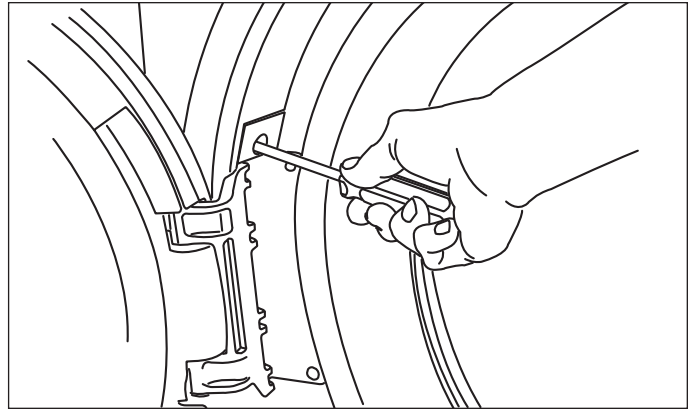

Figure 2-17.
2. Remove and save the trim plug and long, course-thread, panhead screw. (See Figure 2-17)